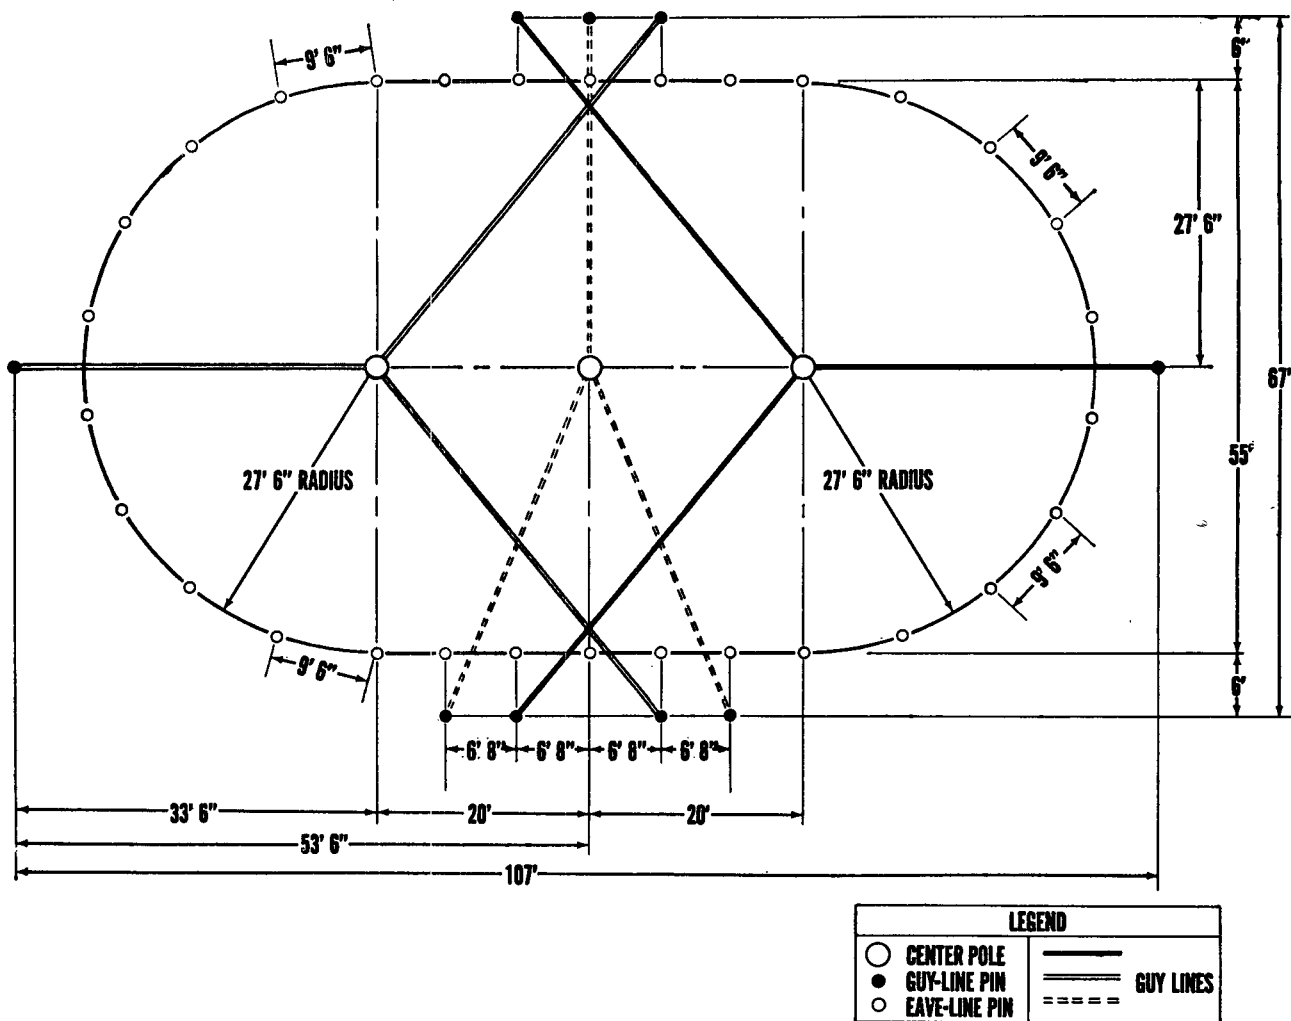

Figure 7. Ground plan of tent, assembly, M-1942.
- (6) *Covers.* The tent is provided with six covers for use when in storage or when being transported.
c. Ground Plan. Before pitching the tent, study the ground plan carefully (fig. 7).
outside pin on a line at right angles from the center point of the long dimensional line of the tent layout (fig. 7). This places the man holding the line directly in line with the man at the butt end of the pole. The man at the butt end of the pole keeps the pole in position with the marker by holding it with his foot. Be sure that the butt end of the pole is through the bail ring. The man at the top end raises the pole and walks towards the butt end. The man holding the center guy line assists by maintaining a taut line as the pole is raised. After the pole reaches such a height that it